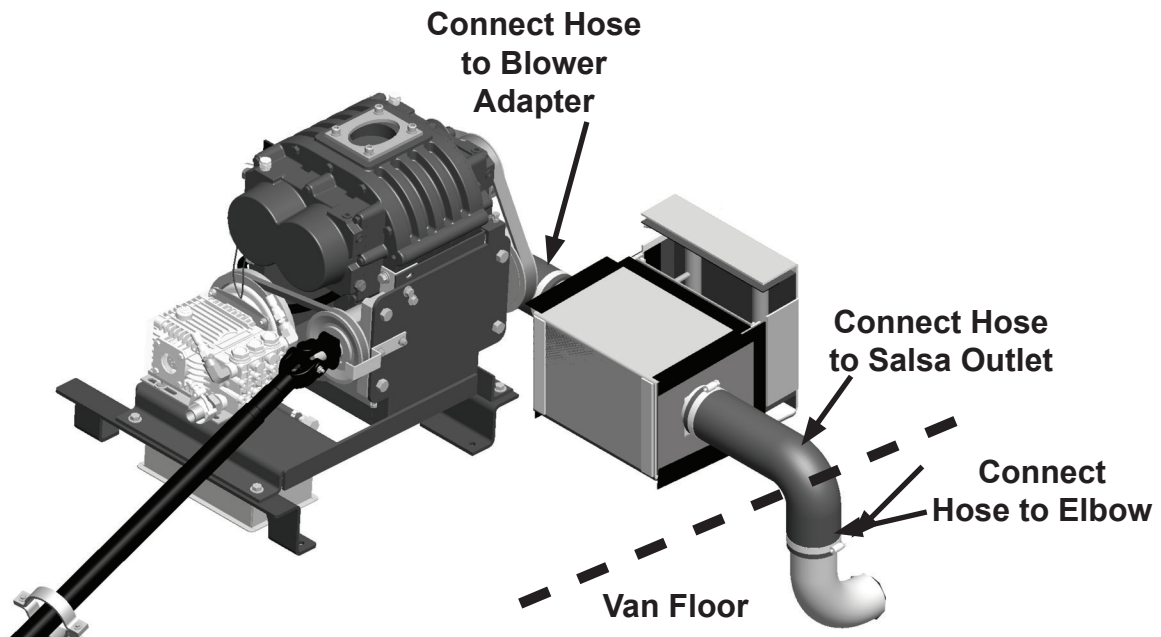

Figure 36. Connect Salsa's Rubber Hoses and Elbow
Dry fit the Salsa Heat Exchanger behind the driver's seat location. Mark the location on the van's floor where the 3" diameter rubber hose (P/N 000-052-674) will be inserted (see Figure 36).
2. Connect the 3" diameter rubber hose (P/N 000-052-674) on the outlet weldment of the Salsa, and route it through the hole in the van floor. Secure the hose to the Salsa outlet with a hose clamp (see Figure 36).
3. From under the van's floor, slip fit the 3" aluminum elbow (P/N 000-052-649) into the rubber hose protruding through the floor. Secure the elbow to the hose with a hose clamp (see Figure 36).